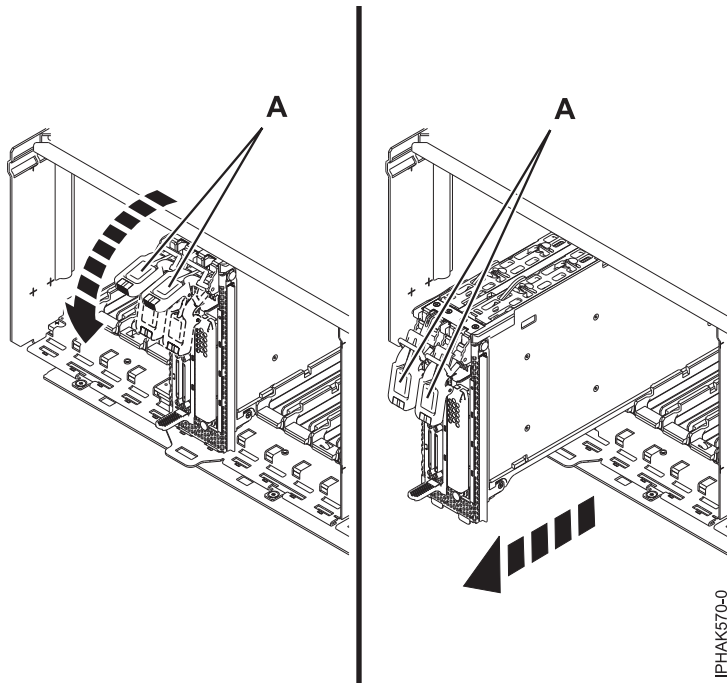

Figure 66. Removing the cassette assembly from the I/O expansion unit
- a. Ensure that the locking arms **(A)** are down as shown in Figure 66 on page 81.
- c. Carefully slide the cassette assembly all the way out of the I/O expansion unit. See Figure 66 on page 81.